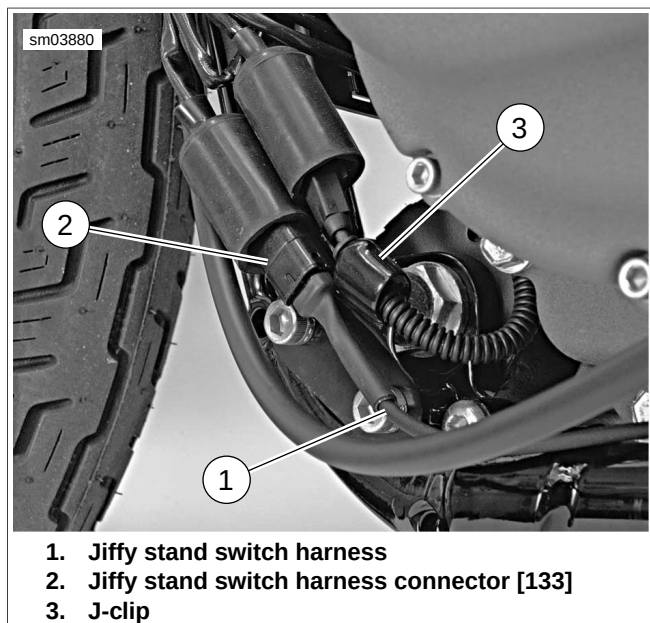

Figure 6-124. Jiffy Stand Switch Harness Connector
2. See Figure 6-124. Unplug jiffy stand switch harness connector [133] (2), located next to left front frame downtube, by front electrical caddy.
- See Figure 6-124. Plug jiffy stand switch harness connector [133A] (2) into main harness connector [133B].
See Figure 6-124. Do not route jiffy stand switch harness (1) through j-clip (3). This puts undue stress on harness wires. Harness could chafe against j-clip, possibly causing harness to fail.